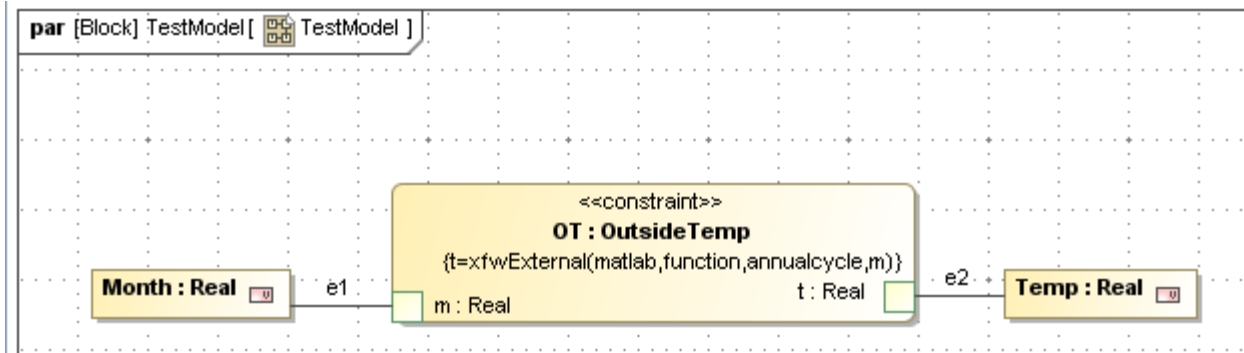

Figure 7.3 Parametric diagram for Outdoors
7. Create the parametrics diagram shown in Figure 7.3 inside the block **Outdoors**. The constraint block **OY:OutsideTemp** contains the MATLAB function *annualcycle*.